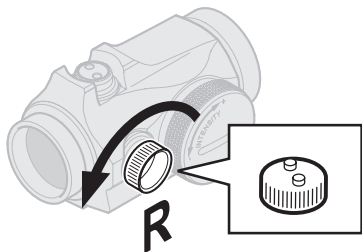

Fig. 4 ➔ 2.3
- a Open lens covers (11) and (12).
- b Adjust the intensity (8) to a comfortable setting for the red dot to contrast against the target.
- c To access elevation adjustment screw (4) and windage adjustment screw (5), remove the adjustment cap (2) and the cap (3).
- d The adjustment cap (2) or the tool (13A) must be used to turn the adjustment screws. Place the knobs on the adjustment cap (2) into the recesses on the adjustment screws (4) and (5).
- e Windage adjustments (See Fig. 4)